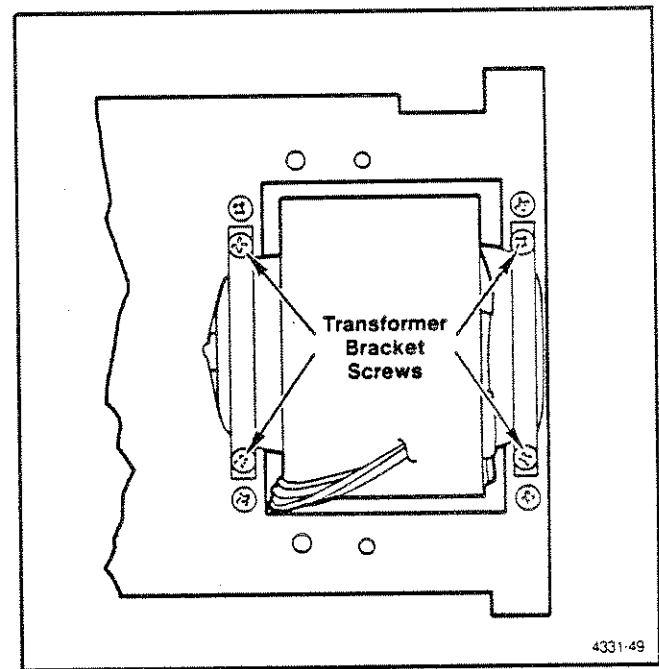

Fig. 7-5. Transformer and bracket (partial pictorial).
e. Remove the transformer bracket screws (4), as shown in Fig. 7-5.